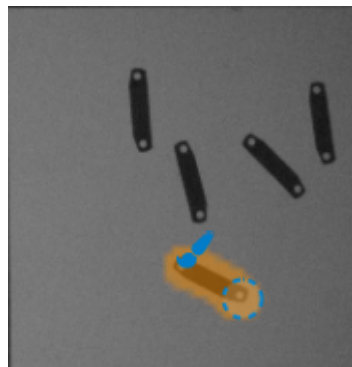

Figure 17: Masking the part
5. Click **Brush** to draw a mask that covers the reference part. See figure 17.